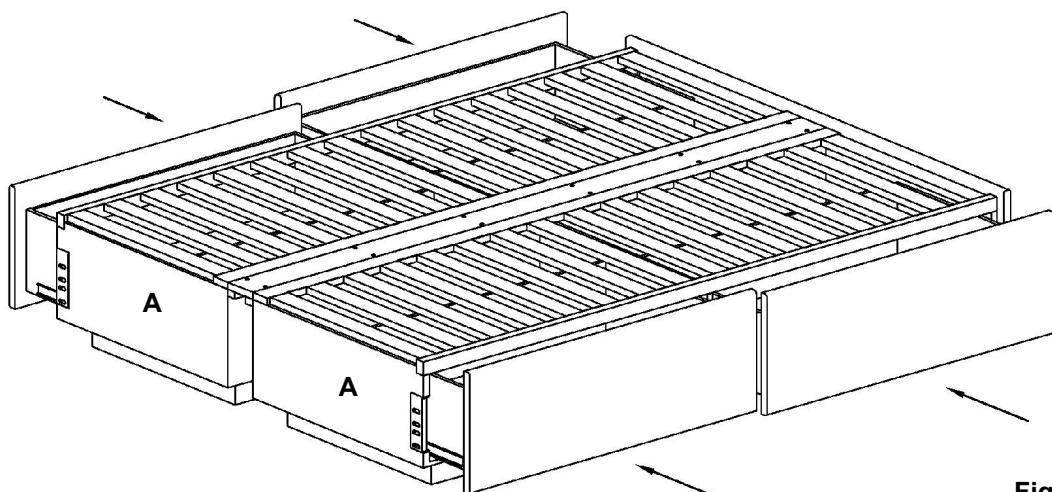

Fig. 10
16. Repeat Step #15 for the remaining drawers. See **Fig. 10**.